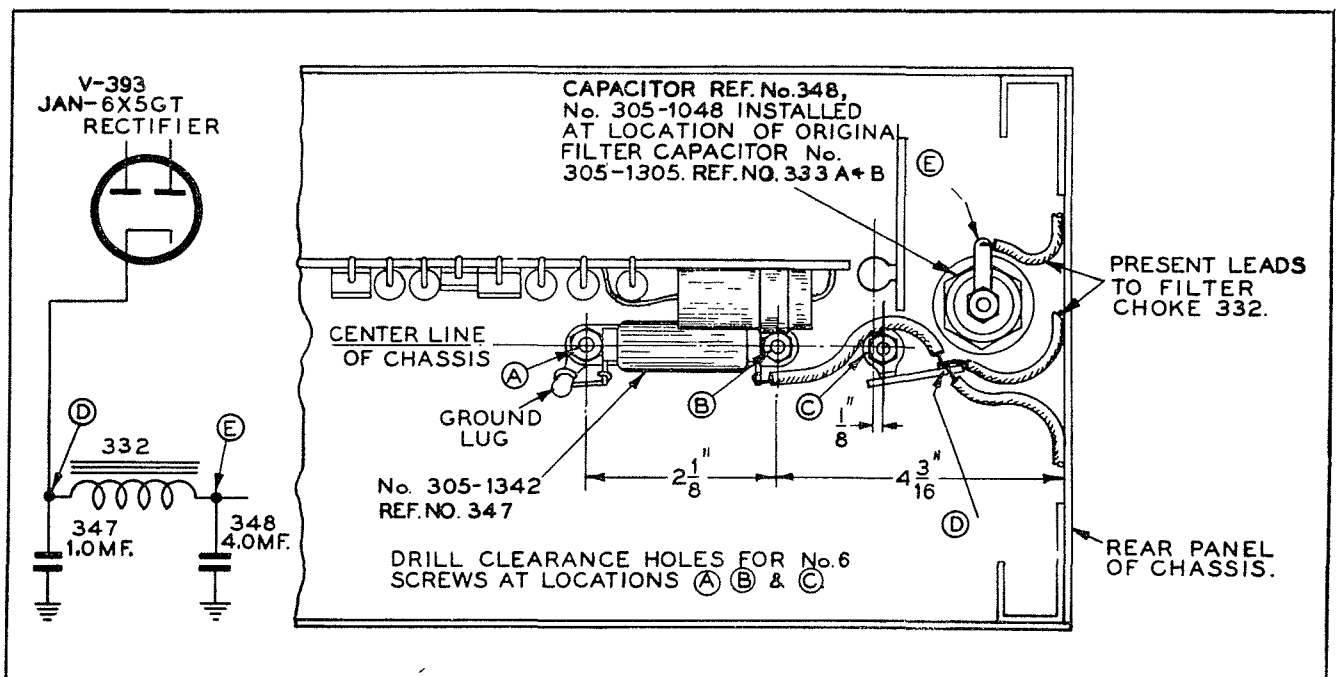

Figure 6-14. Indicator BC-929-(*)—Mounting of Capacitors 347 and 348
(31) CHANGES NO. 75 AND 76.—Filter capacitors 333A and 333B in one tubular can were replaced by two separate capacitors 347 (Philco part No. 305-1342) and 348 (Philco part No. 305-1048). Capacitor 348, which replaced 333B, is mounted in the same hole used by the original capacitor. The other new capacitor, 347, is mounted on the underside of the chassis, as shown in figure 6-14. When this change is made, it is necessary to drill the chassis as shown at A and B for mounting the capacitor, and as at C for a terminal board.
(32) CHANGE NO. 77.—Resistor 303-5 was removed from the circuit to increase the range of the intensity control, required by variations in some cathode-ray tubes. This removal was effective with serial No. 1010 on order No. 5759-WF-43. Later, the intensity control was changed to 1 megohm, and a 220,000-ohm, 1-watt resistor, 352-1, connected in parallel with it. At this same time the values of all the high-voltage bleeder resistors were changed to improve focus and intensity control for the general run of cathode-ray tubes. This change was effective with serial No. 2377 on order No. 431-DAY-44, and subsequent models.